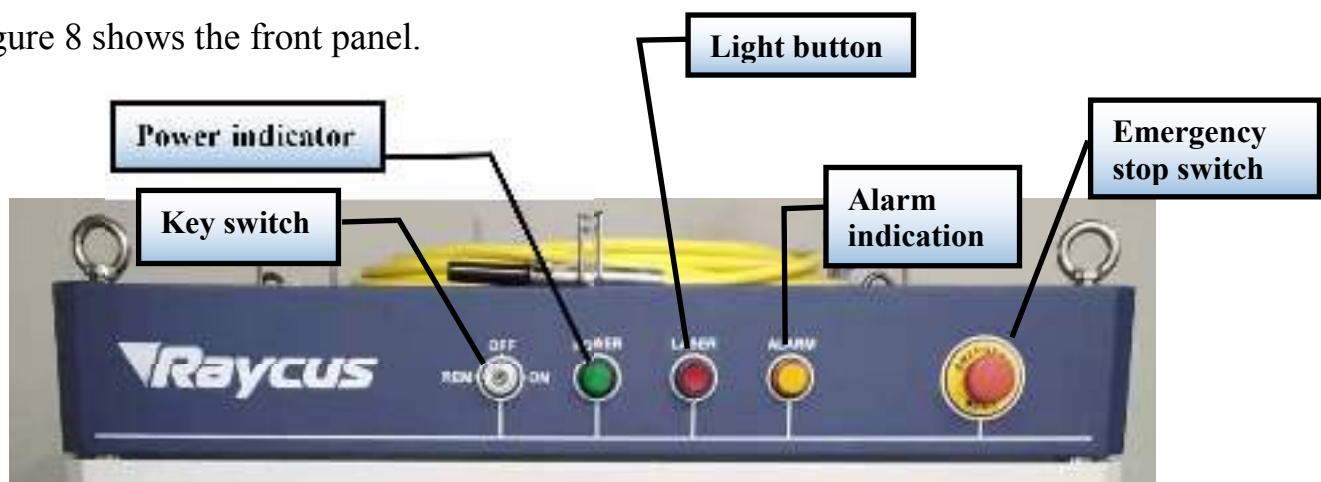

Figure 8 Front view of the panel.
(2) RFL-C8000X / RFL-C10000X / RFL-C12000X / RFL-C15000 lasers use RFL-QD output optical cable. and the dimension of output optical cable head
- (5) Check the output head and clean it before installation. This procedure must be performed by Raycus personnel or person authorized by Raycus.
- (6) Prevent the delivery cable from treading, pinching or excessive bending during installation.
- (7) Make sure the environment is clean, or the output head may be contaminated. It is prohibited to use fan during installation, which will cause dust in the air.
- (8) The minimum bending radius of the transmission cable of the laser shall not be less than 20cm in the non-working state (such as transport and storage). The minimum bending radius should not be less than 30cm when the laser is work.
- (9) Users can employ four lifting rings or rollers on the top or bottom of the device to carry or move it, as shown in figure8 (please check whether the lifting rings are installed firmly and whether the rollers are fully mobile before transporting the device).
Figure 8 shows the front panel.